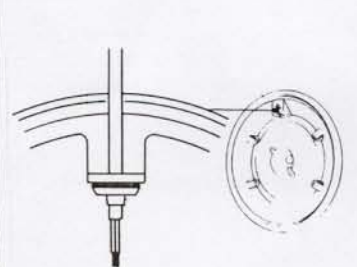

Fig.10
14. Wire supply cable into terminal block taking note of terminal block markings and cable colour coding (Fig 10).